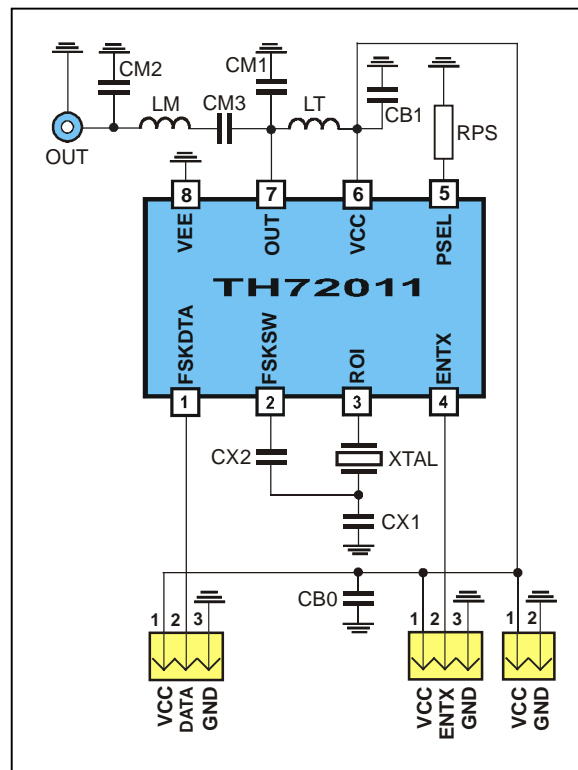

Fig. 18: Test circuit for FSK with 50  $\Omega$  matching network
typical values at  $T_A = 23\text{ °C}$  and  $V_{CC} = 3\text{ V}$ ; test circuit shown in Fig. 18,  $f_c = 433.92\text{ MHz}$
- Data according to test circuit in Fig. 18
### 6.1 Test circuit component list to Fig. 18